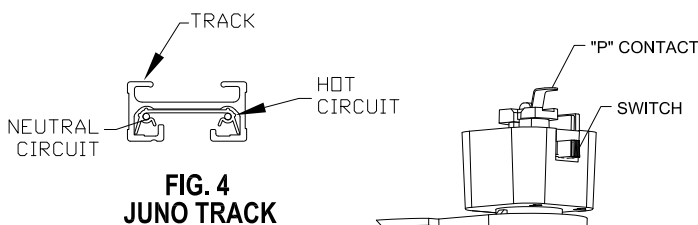

FIG. 4
A. ADAPTER: (JUNO TRACK), FIG.4